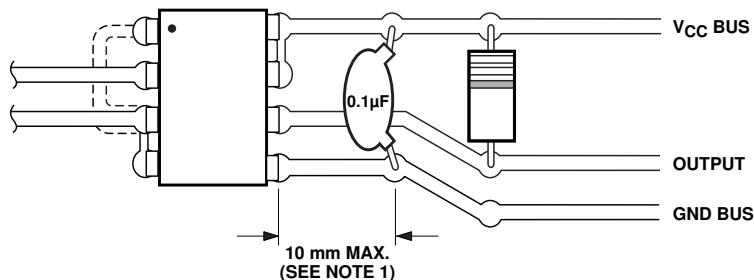

Figure 15. Recommended printed circuit board layout.
1. Bypassing of the power supply line is required with a  $0.1 \mu\text{F}$  ceramic disc capacitor adjacent to each optocoupler, as illustrated in Figure 15. Total lead length between both ends of the capacitor and the isolator pins should not exceed 10 mm.
assumes that good board layout procedures were followed to reduce the effective input/ output capacitance as shown in Figure 15.